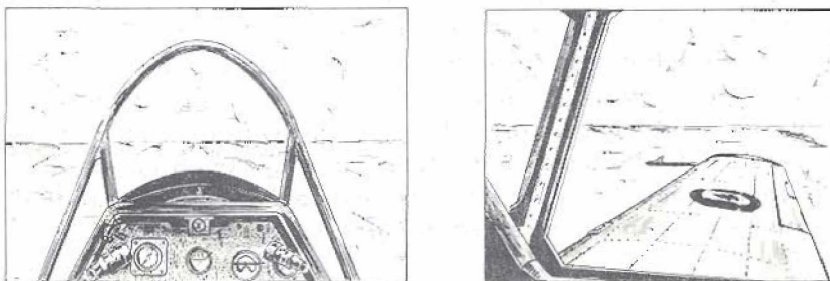

Figure 1: The Level Flight Attitude
(1) Straight and level flight is that attitude of flight in which the aircraft maintains a constant altitude and direction. The positions of the nose and the wing tips in relation to the horizon, as shown in Figure 1, provide the references for maintaining the straight and level attitude. The Harvard, unlike the Chipmunk, has an adjustable seat which may be raised or lowered to suit the individual, so, unless the seat is set to the same position on every trip, the apparent positions of the nose and wings will vary. After settling into the cockpit, therefore, your first action must be to raise or lower the seat to the most comfortable position. (Art 2.03(1) and (2)). If this is done before every flight, the straight and level reference positions should remain constant.